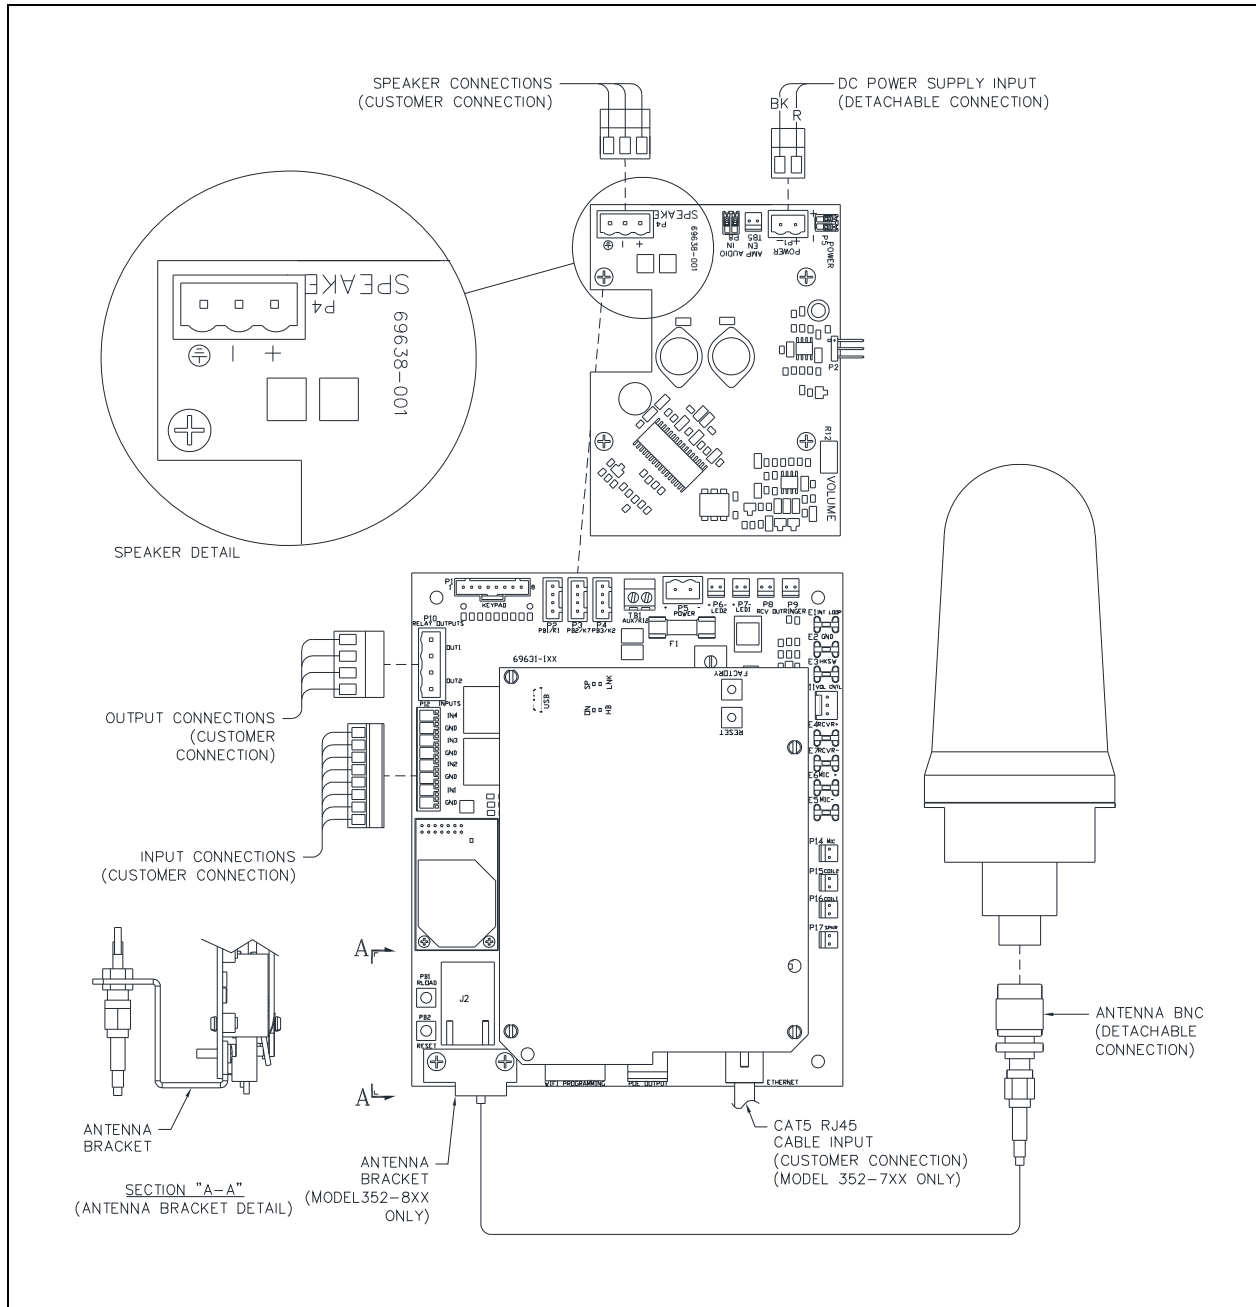

Figure 13. Internal PCBA Connections
1. *Wired versions:* Plug the incoming Category 5 network cable into the RJ45 jack, located on the underside of the VoIP PCBA (see Figure 13).
4. Terminate the speaker connection wires per the PCBA silk screen text (see Figure 13).
5. Install all additional connections as directed in the following subsections (see Table 2 and Figure 13).
Connect a Category 5 or better UTP cable with an RJ45 connector between the LAN and the VoIP PCBA (see Figure 13). The Ethernet jack is located on the underside of the VoIP PCBA.